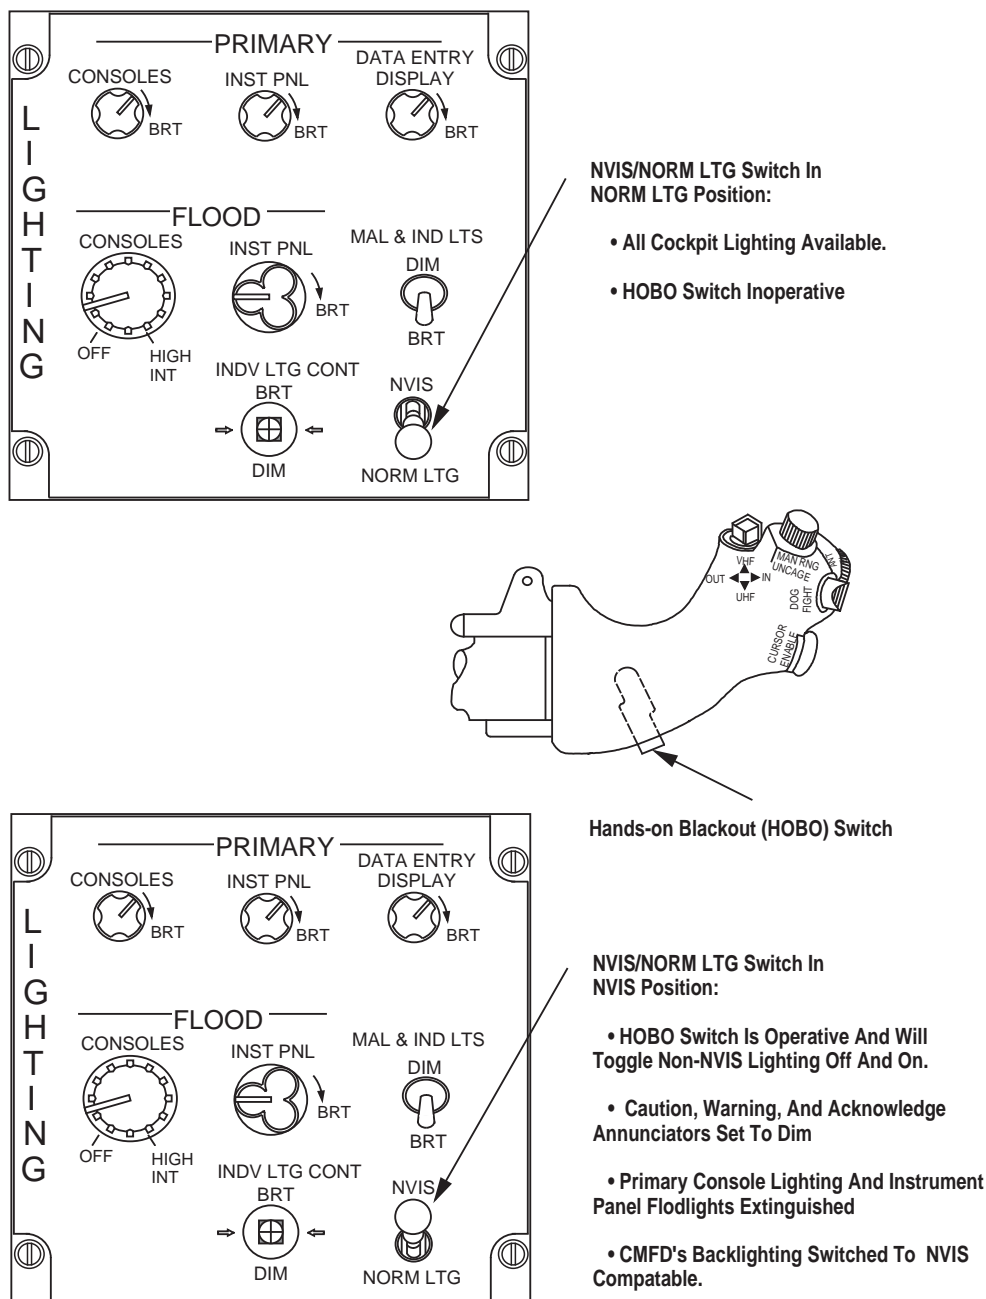

Figure 1-79 NVIS and Hands-on Blackout Switches
- Third, the Interior Lighting Control Panel and the throttle grip were modified with switches that provide a hands-on method of turning off non-NVIS compatible lighting that would adversely affect NVG operation (Figure 1-79). Placing the Interior Lighting Control Panel NVIS/NORM switch in the NVIS position enables the Hands-On Blackout (HOBO) switch on the throttle, extinguishes console and instrument panel flood lights, and dims caution/ warning lights. When the HOBO switch is depressed, additional non-NVIS compatible lighting sources are turned OFF as follows: